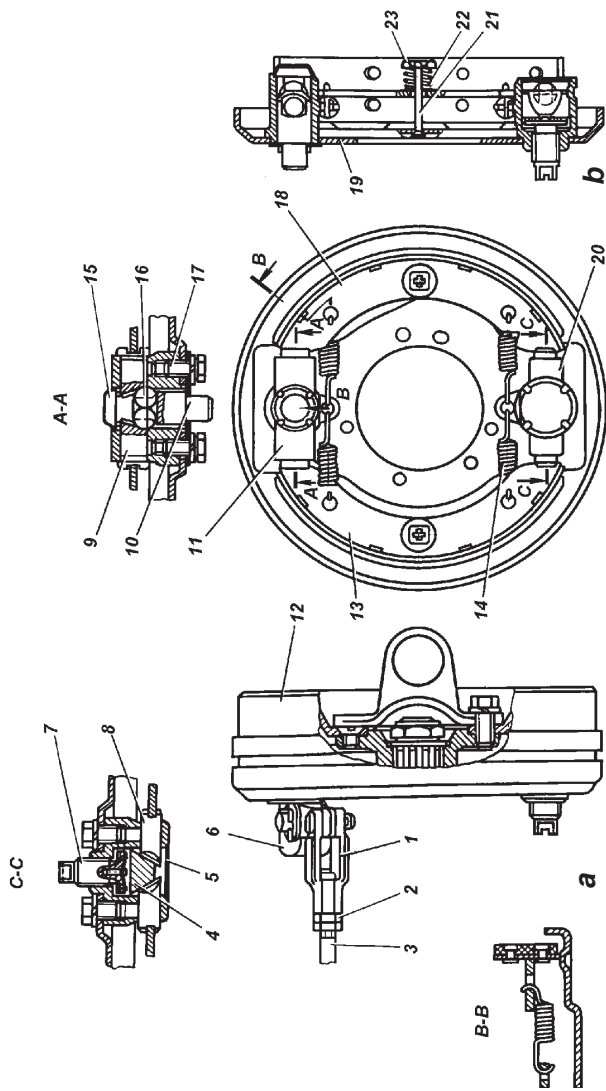

Fig. 9.33. Parking brake:
**The parking brake is maintained as follows:** periodically check the brake (Fig. 9.33) and its drive, adjust the lever travel, check the attachments, clean and grease the parts of release and adjusting mechanisms and eliminate any detected malfunctions.